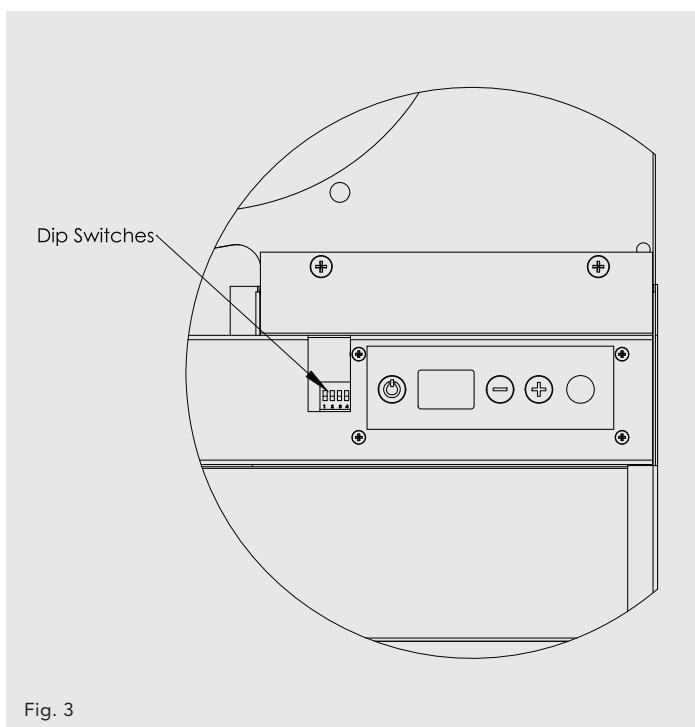

Fig. 3
- Change switch position (see fig. 3).